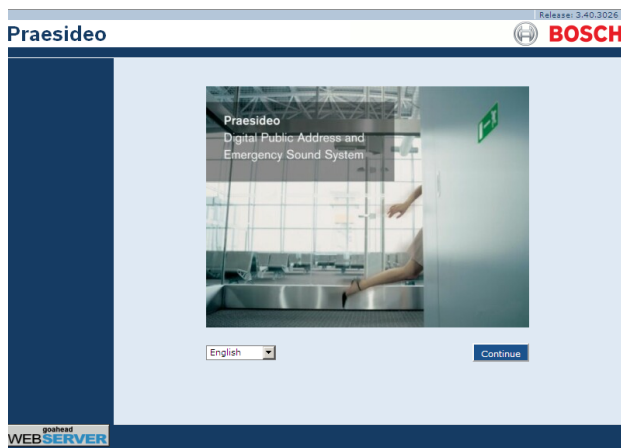

figure 40.1: Home page of the Praesideo web interface
- 2 Enter the IP address of the network controller in the address bar. A screen similar to the one in figure 40.1 appears.
After clicking the *OK* button, a screen similar to the one in figure 40.1 appears. Logging on to the off-line version of the web interface is similar to logging on to the 'real' web interface.